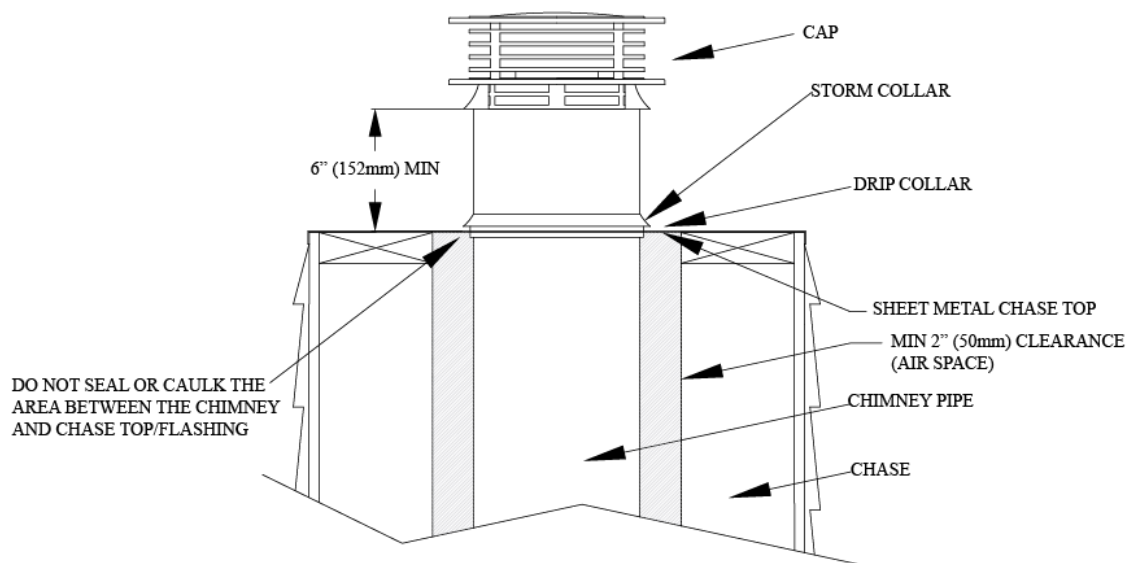

Figure 15b
3. Install chimney sections, firestops, attic insulation shields, etc., following chimney manufacturer's instructions and requirements, as well as chimney minimum / maximum height requirements as outlined in this installation manual. See the following drawings on the next page for combustible chase enclosure for chimney sections installed above the roof (Fig. 15b).